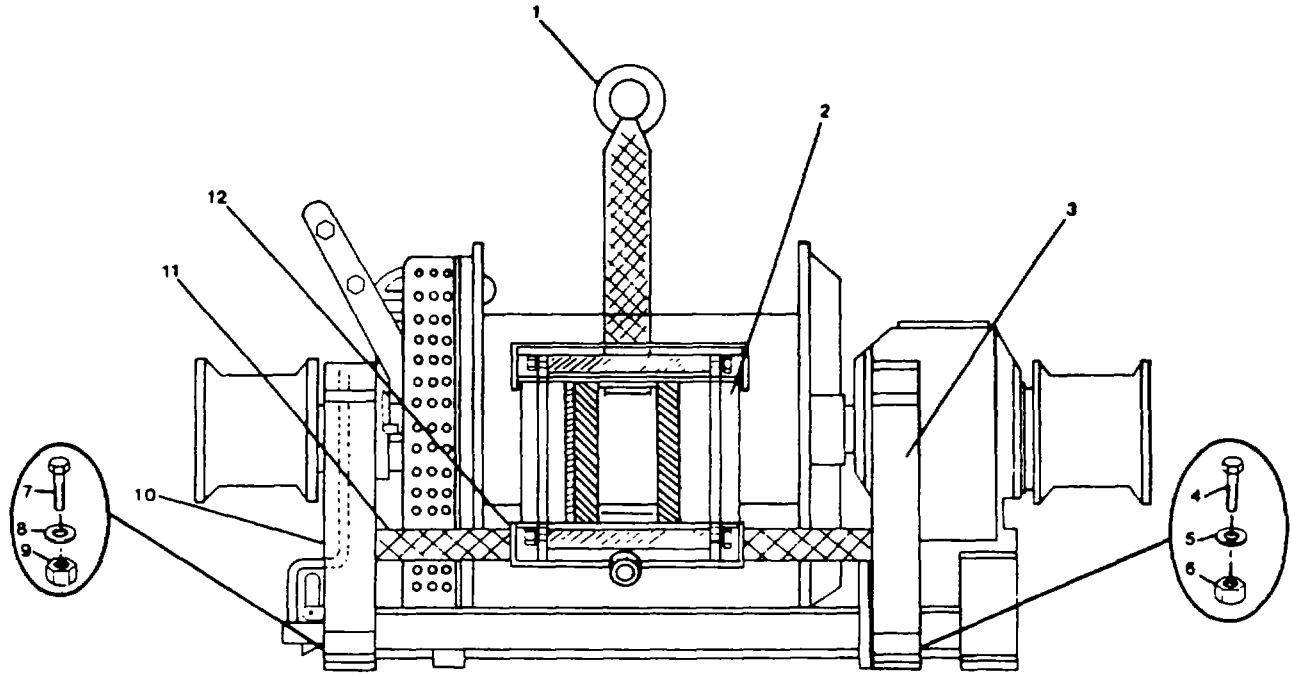

FIGURE 4-9. Stern Anchor Winch Levelwind Side Frames.
i. Levelwind Side Frames. (FIGURE 4-9)